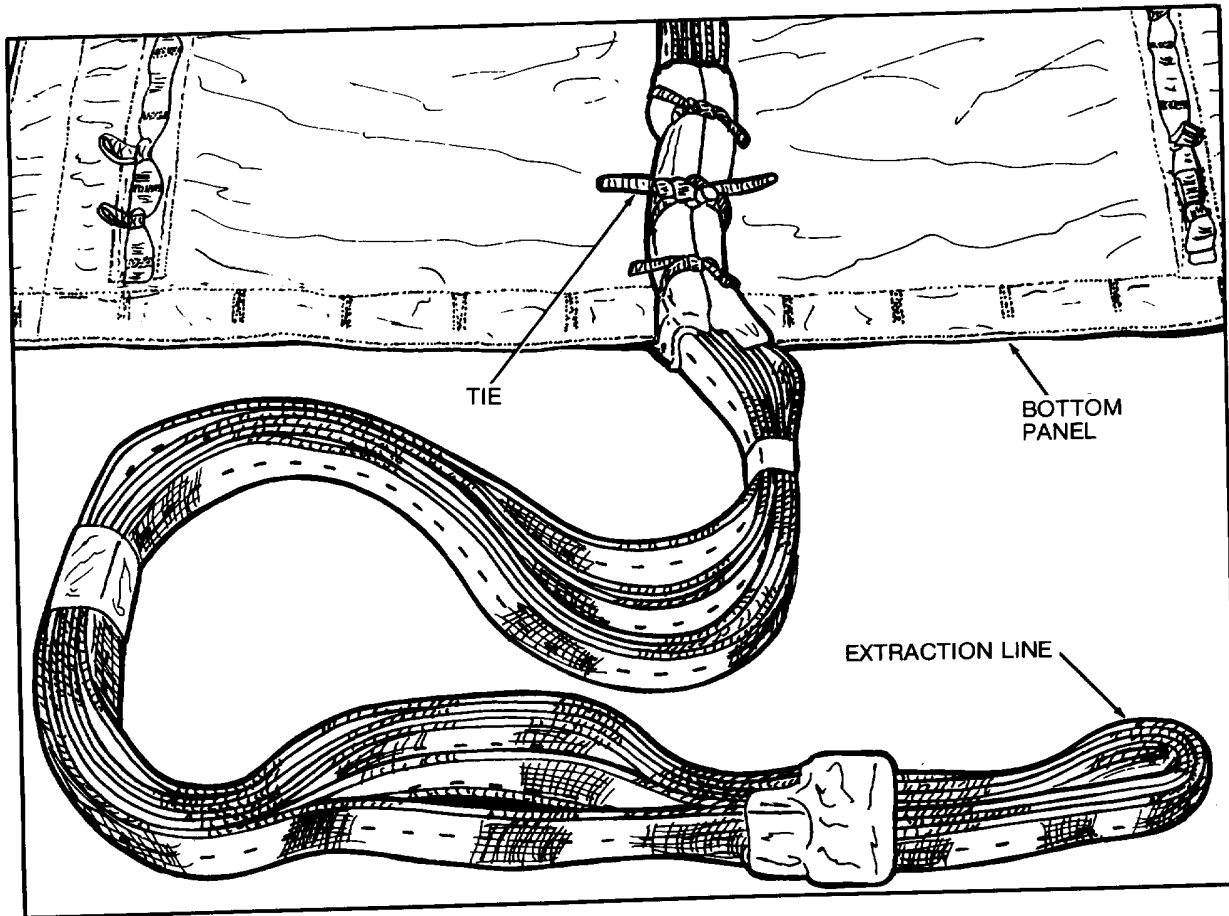

Figure 3. Extraction Line Secured to Bottom Panel.
- C. Pass running ends of 36-inch length of 1/2-inch tubular nylon webbing previously installed on the panel between wrapped plies, pass each running end in opposite directions, down and under stow loop back to top of extraction line. Secure running ends on top of extraction line with surgeon's knot, locking knot and overhand knot in running ends (figure 3).